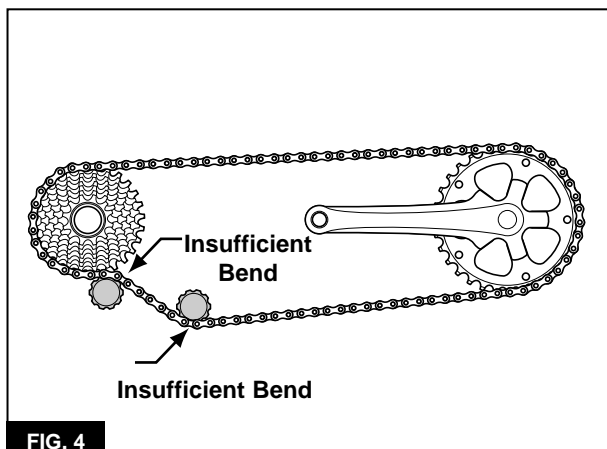

FIG. 4
- a. If the chain passes through the derailleur without bending twice, the chain is too short. See **Figure 4**.